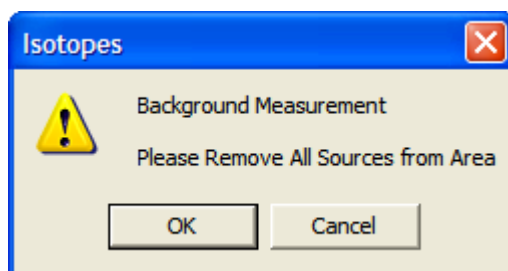

Figure 6-9
7. When the procedure is started, the screen appears as shown in Figure 6-9.
To accept the measurement and continue with the next step, click the  button or press the *Y* key. Figure 6-12 will appear. To discard and recount the current measurement, click the  button or press the *N* key. Figure 6-9 will re-appear.